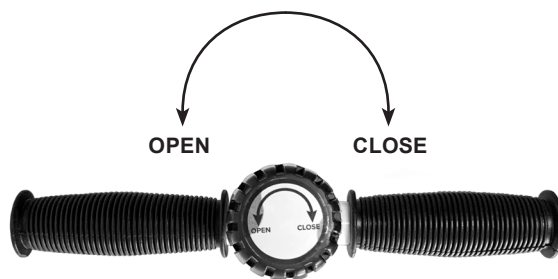

fig.7
- 4.1.2. Before using the jack for the first time, purge the hydraulic circuit in order to eliminate any air in the system. To do this, open the release valve by moving the lever downwards from position A to position B as shown in fig.2. In the lower position B the handle must engage with one of the 3 handle locations indicated in fig.1. Once engaged the release valve can be opened by rotating the lever to the closed position in fig.7. Pump the foot pedal through its full travel 3 or 4 times. Return the release valve lever to the upper closed position.
- 5.2.1. While holding the main jack handle, lifting is achieved by turning the control lever to the closed position, as shown in Fig. 7. Raise the saddle either by pumping the handle or using the foot pedal. **NOTE:** If using the handle to raise the saddle, release the handle release lever first. Fig.2.
- 5.3.2. Whilst holding the main jack handle, lowering is achieved by slowly turning the control lever to the open position (see Fig. 7). Turning the lever gradually allows hydraulic pressure to release in a controlled manner, lowering the saddle smoothly. Avoid sudden or excessive opening of the control lever, as this may cause the load to drop quickly and result in damage or injury. Always ensure the area beneath the vehicle is clear before lowering.